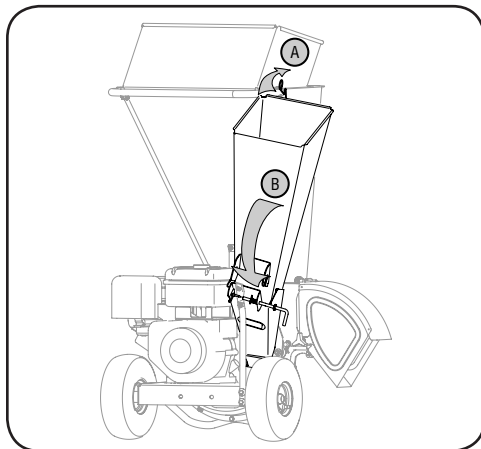

Figure 2-1
1. Pull the spring latch upward. See A in Figure 2-1.
2. Gently pivot the chipper chute down until it clicks into the lock rod. See B in Figure 2-1.